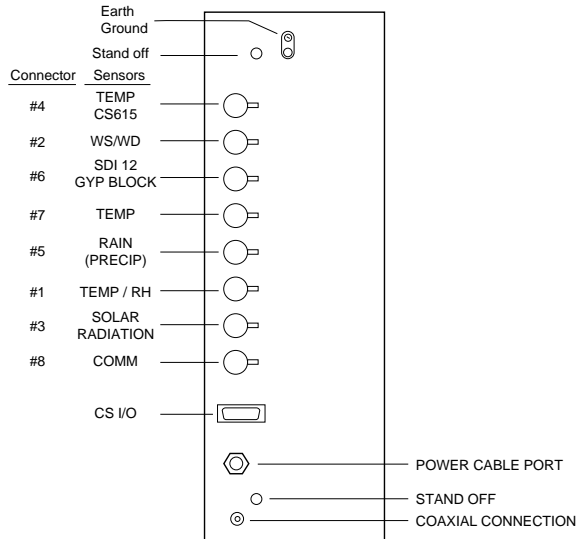

FIGURE 3.2-1. Position of Sensor Bulkhead Connectors
- 2) Remove the protective connector cover from the back of the ET Enclosure by removing the two phillips head screws. Sensors connect to one of seven labeled bulkhead connectors as shown in Figure 3.2-1.